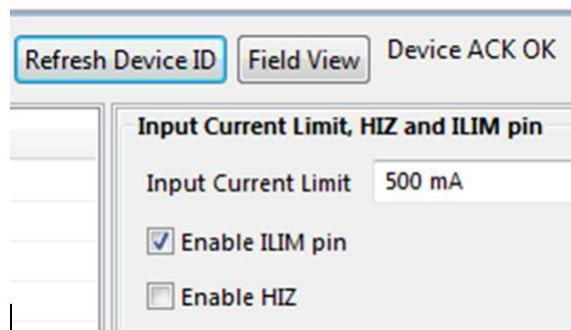
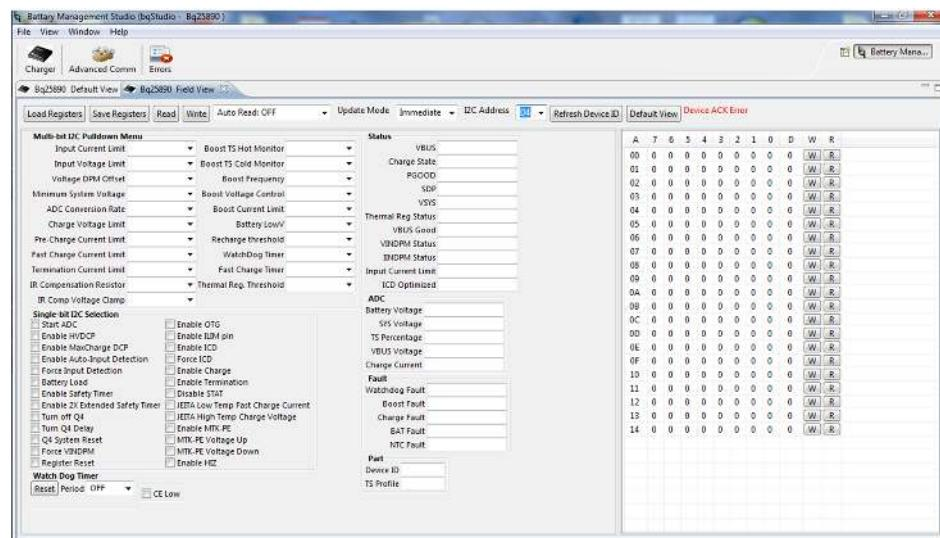

Figure 9. Select Field View
Figure 10. Main Window of the bq2589x Evaluation Software
11. Choose *Field View*, as shown in Figure 9. The main window of the bq2589x software is shown in Figure 10.